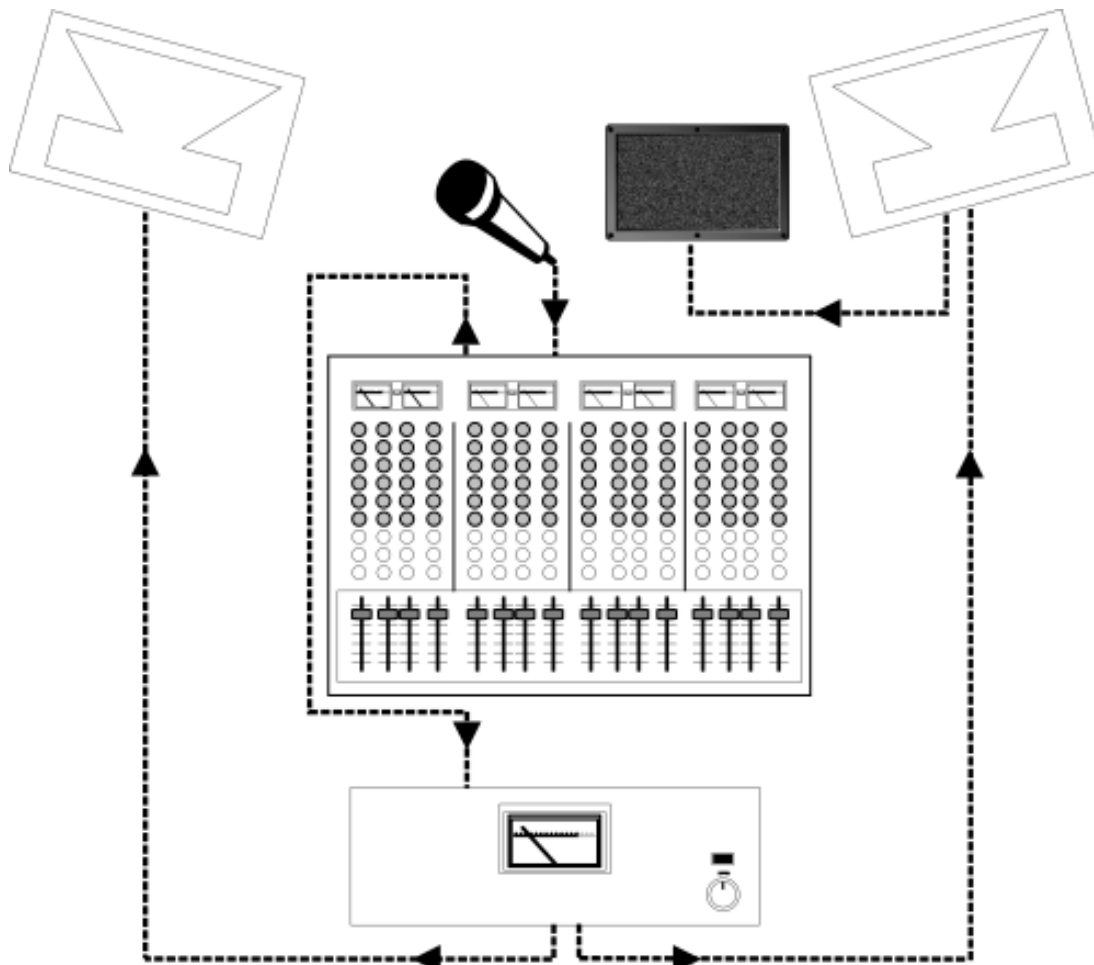

Figure 1.4
- Powering monitor speakers with the same channel of the amplifier used to power main speakers may cause feedback. (See *Figure 1.4.*)
Figure 1.4 shows a monitor speaker on-stage in very close proximity to a microphone. If powered by the same channel of the amplifier used to power the main speakers, this monitor may set into motion a “domino effect” of feedback, limiting the gain of the entire system to that of the monitor. Some mixers provide separate *sends* (outputs) for mains and monitors, enabling levels to be tailored to suit each musician.